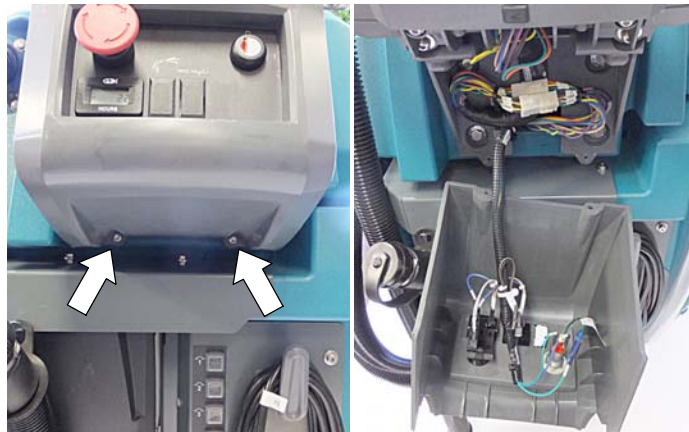

Fig. 13
- Remove the two lower torque screws at bottom of control console and carefully lower console cover as shown (Figure 13)